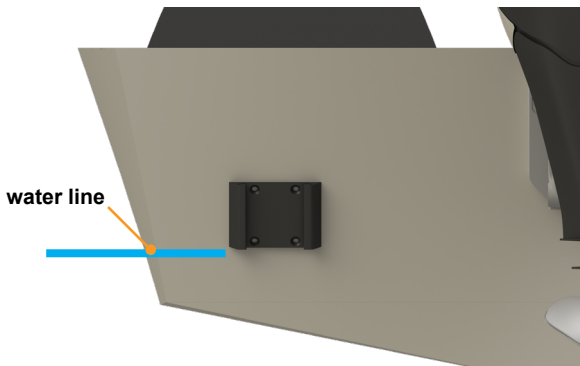

Fig. 3
B. The lowest point of the QR bracket must be mounted above the water line to prevent adverse handling of the boat (Fig.3).